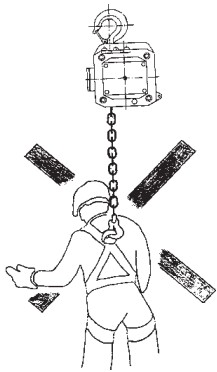

Fig. 3
- Do not use the hoist for the transportation of people (fig. 3)